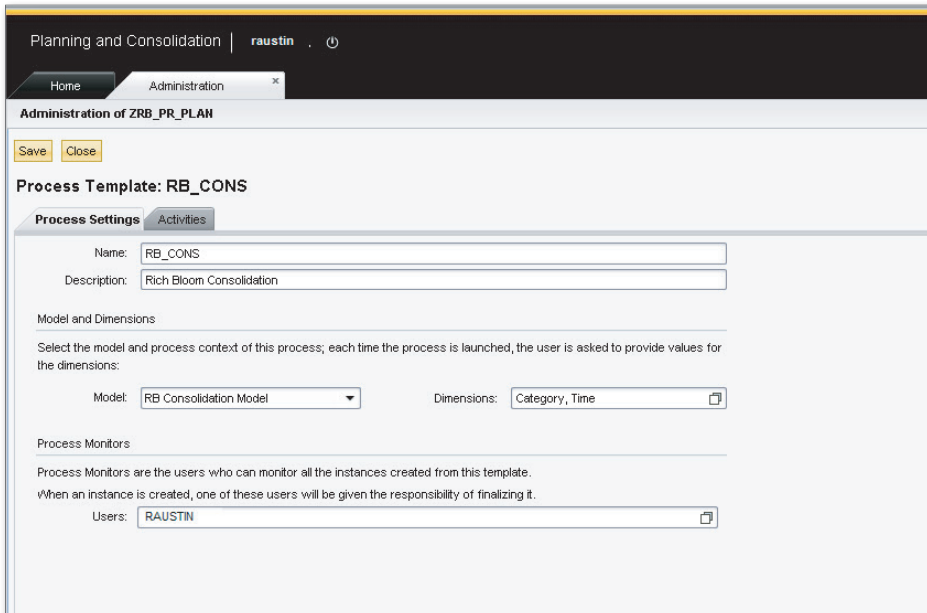

Figure 10.2 Creating a Business Process Flow Template—Part B
2. The screen to create a BPF template is composed of two tabs: the PROCESS SETTINGS and ACTIVITIES tabs (Figure 10.2). In the PROCESS SETTINGS tab, define the settings for the template. You define the following in this tab: